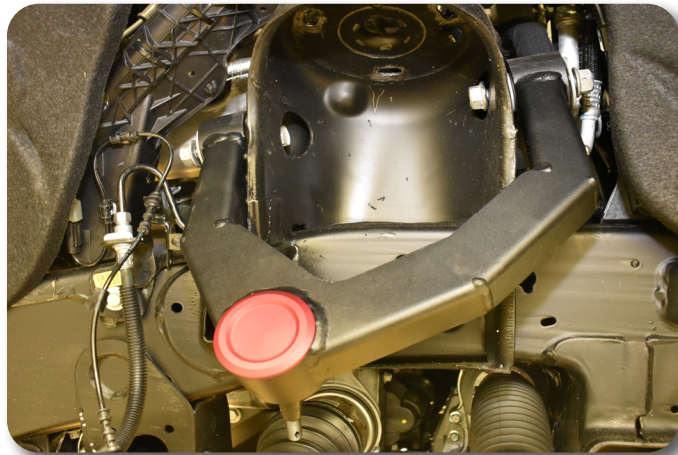

Figure 37
56. Install the new upper control arm to the vehicle using the factory hardware with the bolts running from the inside out and using thread locker Fig. 37. Snug up hardware.